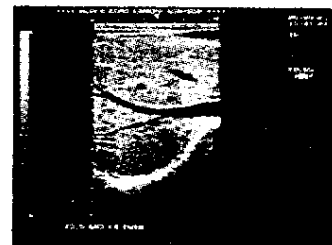

Fig. 9-16
e. Numerous White Spots (Fig. 9-16)